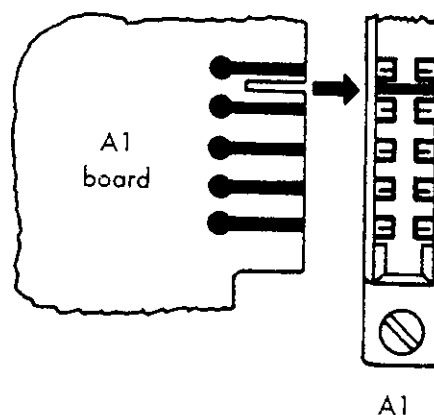

Figure 12. Socket insert
6. Reinstall the *A1* time delay board into its socket. Align the board slot with the socket insert and press the board in until both latches click. See Figure 12.